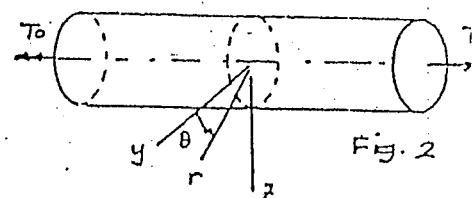

Fig. 2
2. Suppose the stress distribution on a cross-section of the circular cylinder of Fig. 2 is given by $\sigma_{xx} = \sigma_{xz} = 0$, $\sigma_{xy} = k\sqrt{r}$, where k is unknown. What is the value of k in this case?